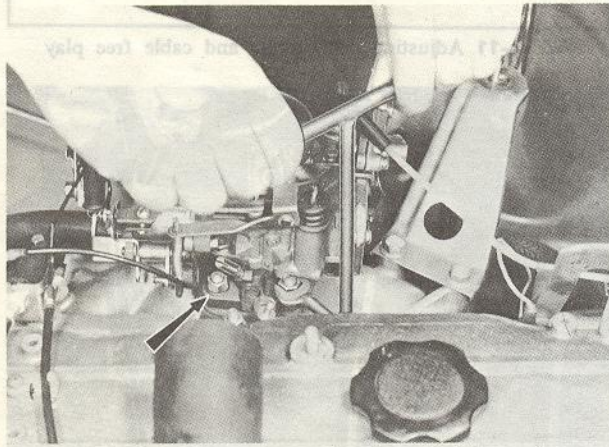

Fig. 4-14 Removing carburetor attaching nuts
7. Using a tool as shown in Fig. 4-14, remove the carburetor attaching nuts from the intake manifold studs. Remove the carburetor, gaskets and insulator. After removing the carburetor, cover the intake port of the manifold with a clean shop towel to prevent dust or dirt from entering.